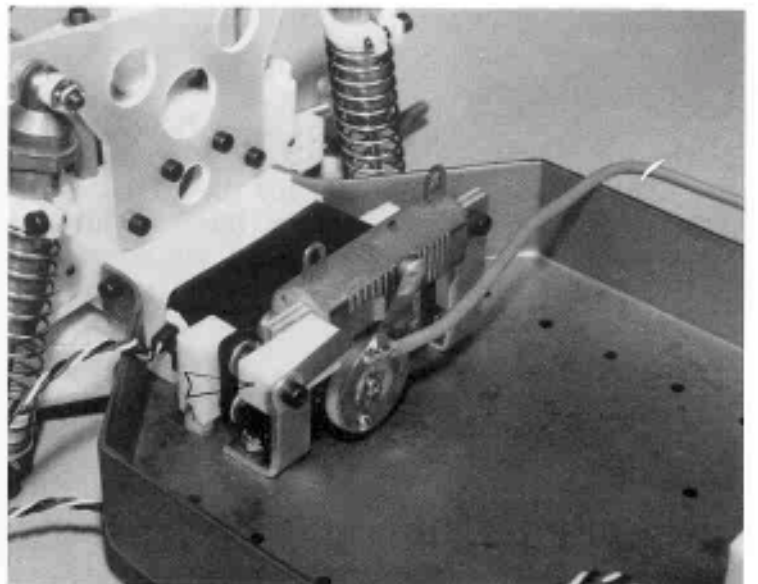

Fig. 179
-179- Follow steps 160 and 161 to install the throttle resistor, but make the following exceptions: the resistor brackets should be turned 180 degrees, so that they look like Fig. 179. Mount the resistor BEHIND the brackets instead of in front; and use the **thin** bypass mount (with the rounded edges). When assembled check for proper wiper pressure as in step 163 and complete the wiring in step 162.